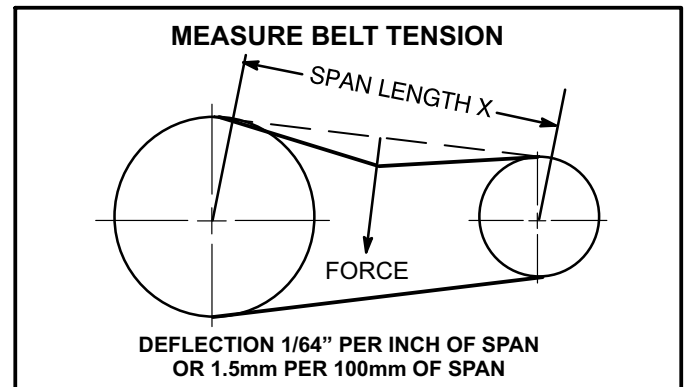

FIGURE 15
1. Measure span length X. See figure 15.
2. Apply perpendicular force to center of span (X) with enough pressure to deflect belt $1/64$ " for every inch of span length or 1.5mm per 100mm of span length.